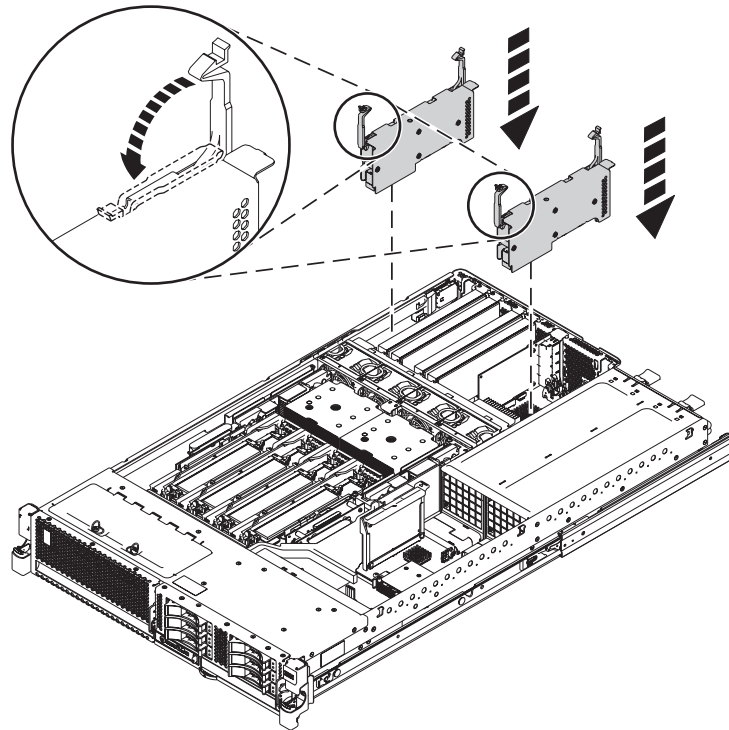

Figure 2. Adapter installation in a rack-mounted 31E/2B system
10. Prepare to install the new adapter by putting the latches on the adapter and on the adapter slot into the open position, as shown in Figure 2.
13. Evenly rotate the latches into the locked position, as shown in Figure 2.